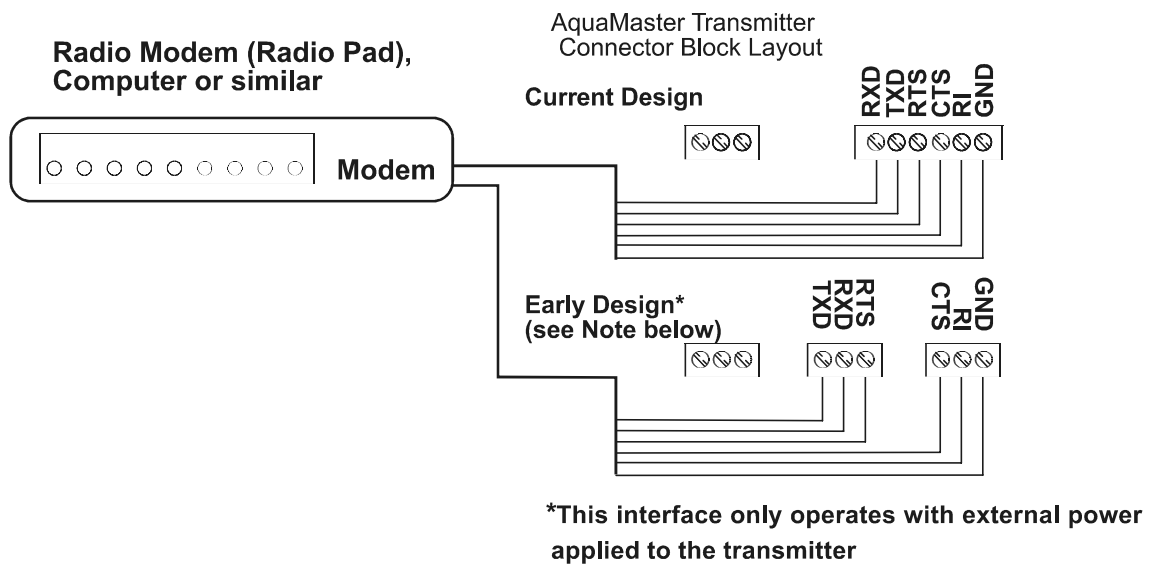

Fig. 3.17 RS232 Connections
3.3.7 Remote Computer Connection - Fig. 3.17